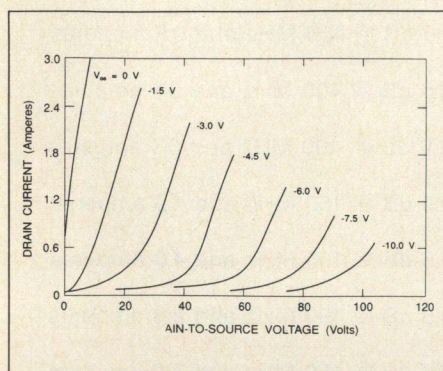

Figure 5. Current versus voltage characteristics for a solid state triode (Courtesy of Adrian Cogan, MicroWave Technology).
teristics shown in Figure 5. However, the SST operates by potential barrier control rather than relying on the space-charge-limited behavior of the SIT. Published results have demonstrated that these commercial solid state triodes are capable of high power operation into the UHF range and future work is expected to push this limit past one gigahertz (6).